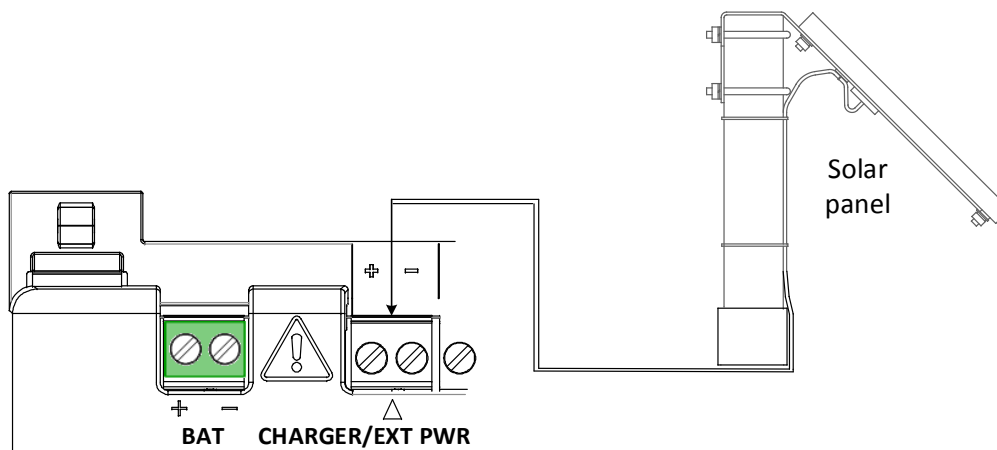

Figure 22: Charger (solar panel)
2. Connect the solar panel cable to the terminals (Figure 22). Observe the polarity (+ and -).